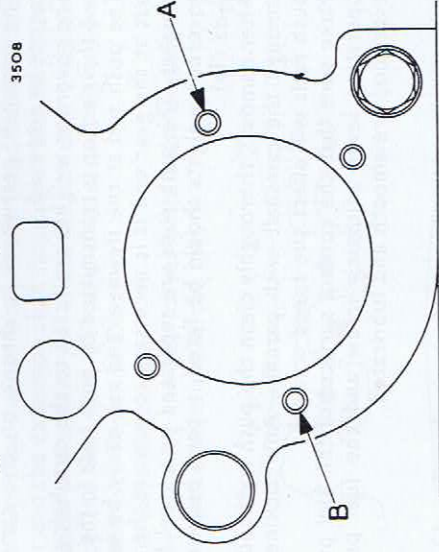

Fig. 12
51. To replace oil pump (Fig. 12)
- (b) Make sure the stepped stud locating the pump is in the correct position. The stud should be fitted at (A) for standard rotation engines or at (B) for reverse rotation engines.